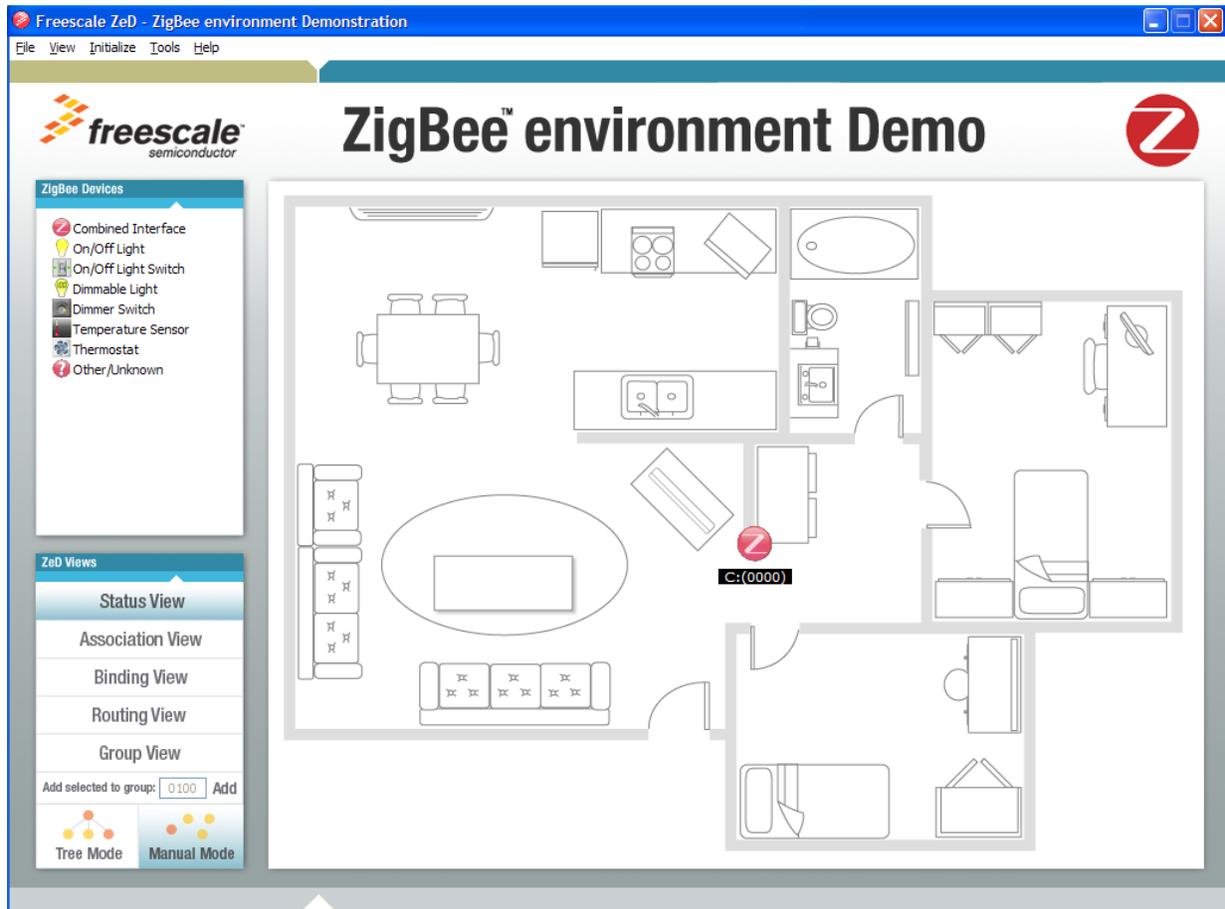

Figure 4-1. ZeD Main Window Showing Combined Interface Device Icon
2. Start ZeD as described in Section 3.2. Running ZeD of the ZeD Quick Start Guide. After the auto detection and selection of the coordinator port, the Combined Interface endpoint icon will appear in the ZeD main window as shown in Figure 4-1.